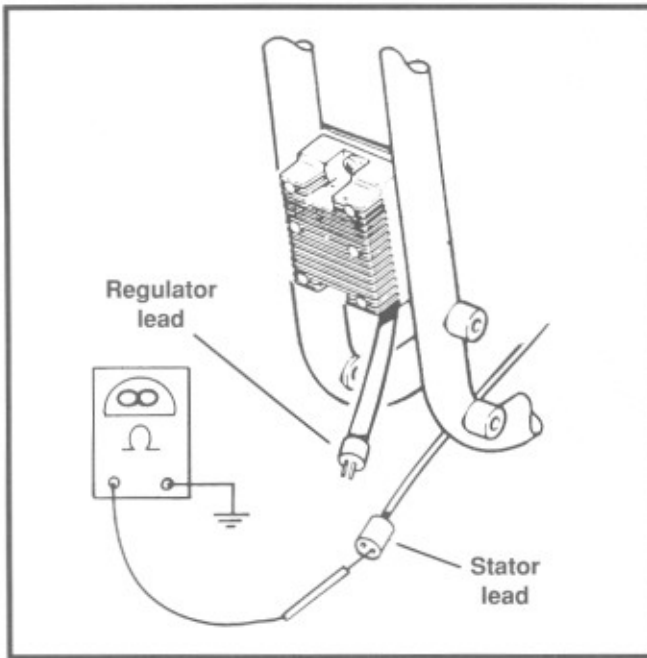

Figure 7-44. Test for Grounded Stator
2. See Figure 7-44. Connect an ohmmeter on the RX1 scale between crankcase and either stator socket. There should be no continuity (∞ ohms) across either test point. Any other reading indicates a grounded stator which must be replaced.